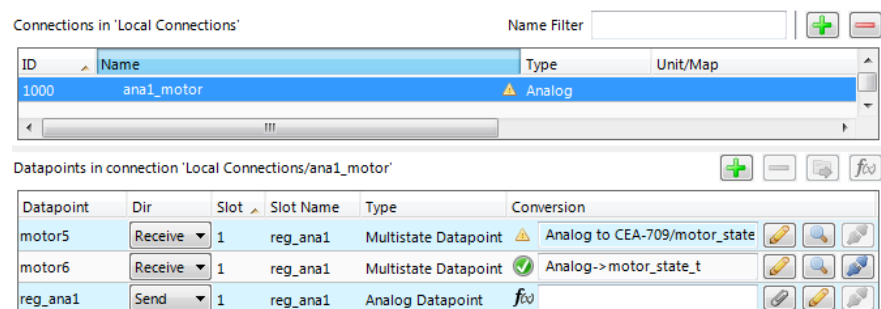

Figure 35: Connection tab with a connection and data points.
4. Now the connection tab contains the new connection and below the list of data points in that connection as shown in Figure 35.